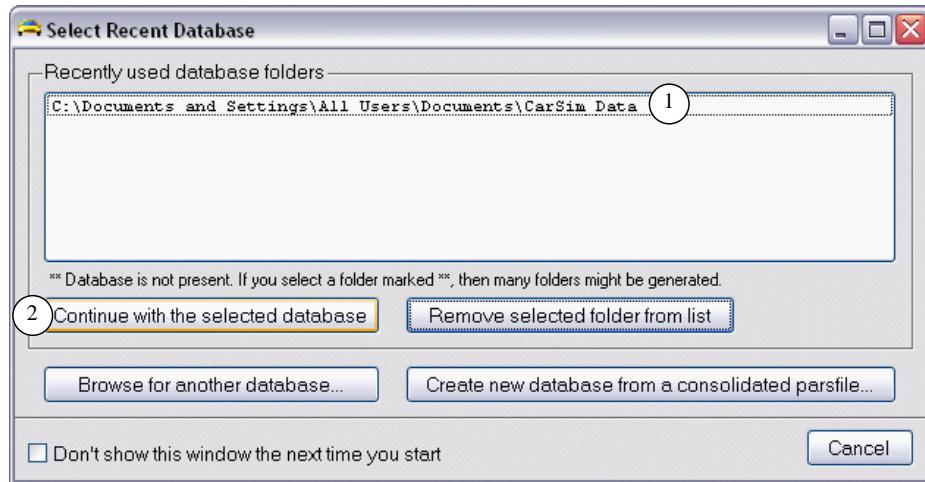

Figure 1: Select a database.
When CarSim starts, it brings up a dialog box to select a CarSim database (Figure 1). It should show at least one available database ①.